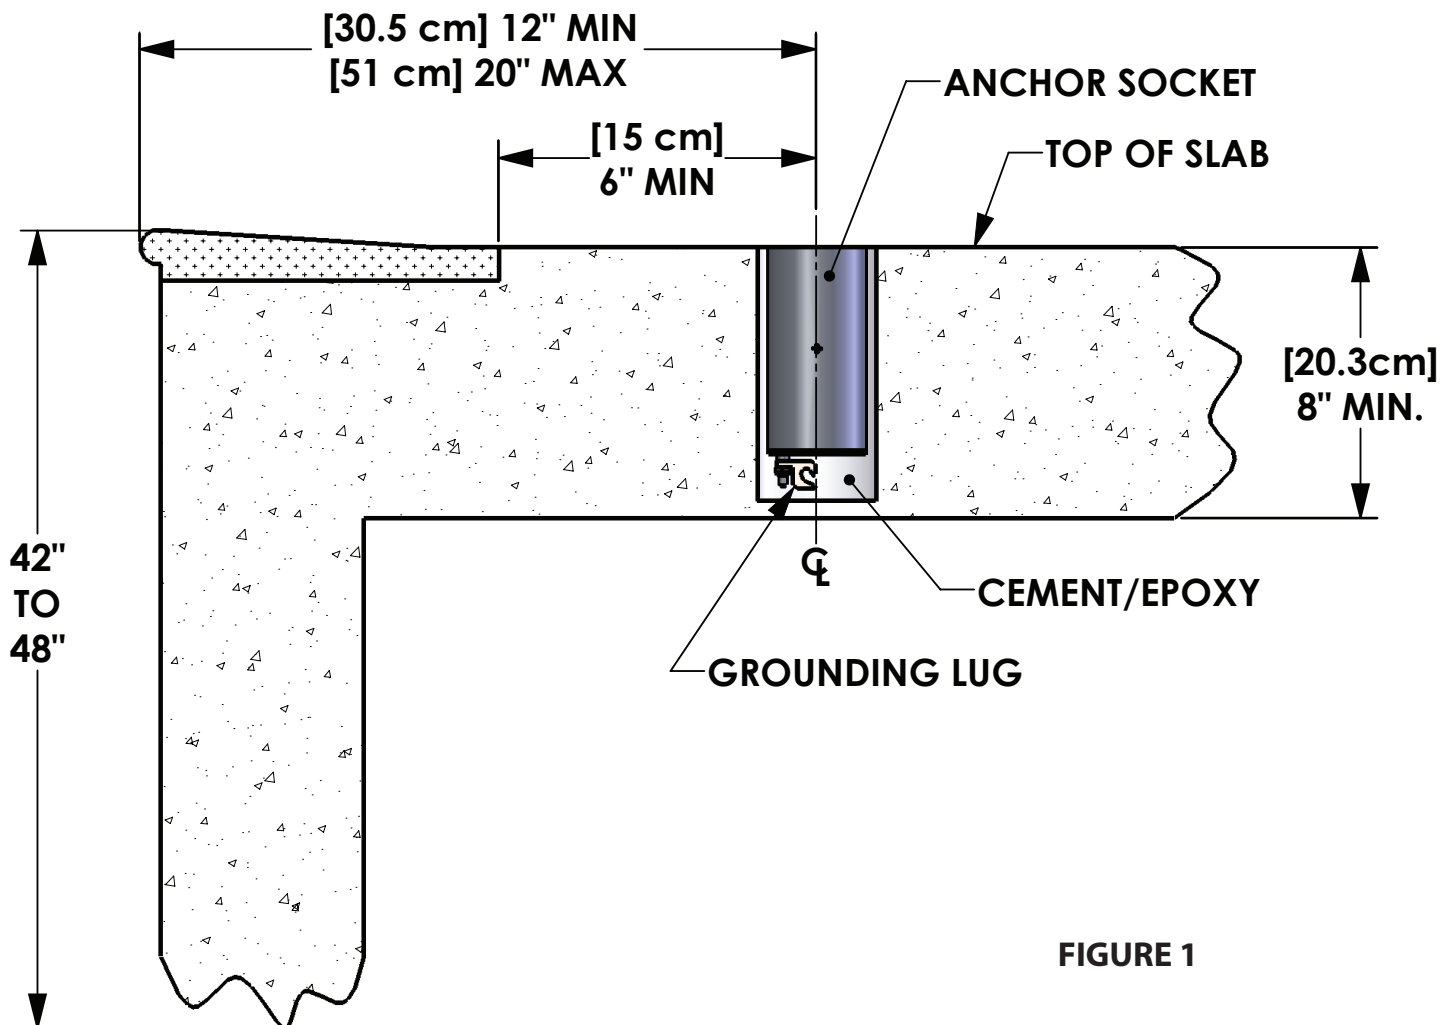

FIGURE 1
- 3.** The setback to the center of the anchor must be no less than 12 inches [30.5cm] and no more than 20 inches [51cm] from the pool wall. The anchor location must also be at least 6 inches [15cm] from any control joint or edge of concrete slab. Measure the location out using the tape measure and marking pen. See FIGURE 1 on page 4 for details.